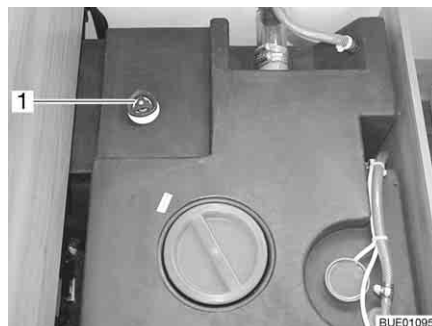

Fig. 206 Water tank with handle
- Turn the handle (Fig. 206, 1) on the water tank in an anticlockwise direction as far as possible beyond the resistance to fully open the drainage opening.